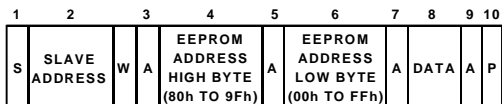

Figure 4e. Single Byte Write To EEPROM
4. Write a single byte of data to EEPROM. In this case the command byte is the high byte of the EEPROM address from 80h to 9Fh. The first data byte is the low byte of the EEPROM address and the second data byte is the actual data. Bit 1 of EEPROM Register 3 must be set. This is illustrated in Figure 4e.